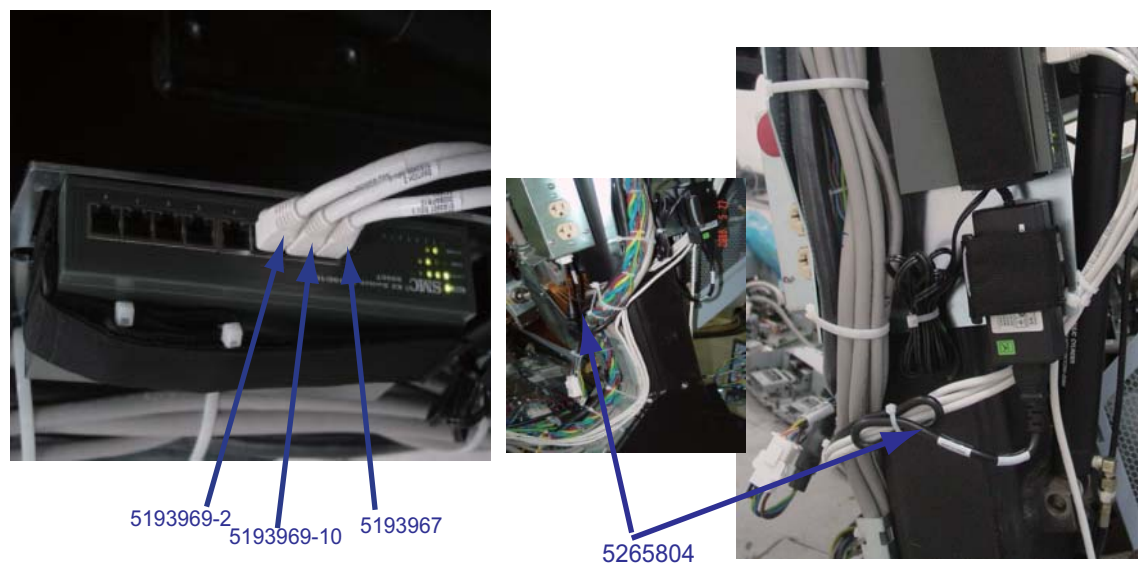

Figure 1-12 LAN Switch Connection
- 6.) Connect cables 5193967, 5193969-10 and 5193969-2 to Port 1, 2 and 3 of Lan Switch according to their labels. Connect cable 5265804 to Service Outlet Power and Lan Switch adapter according to its labels as shown in Figure 1-12.